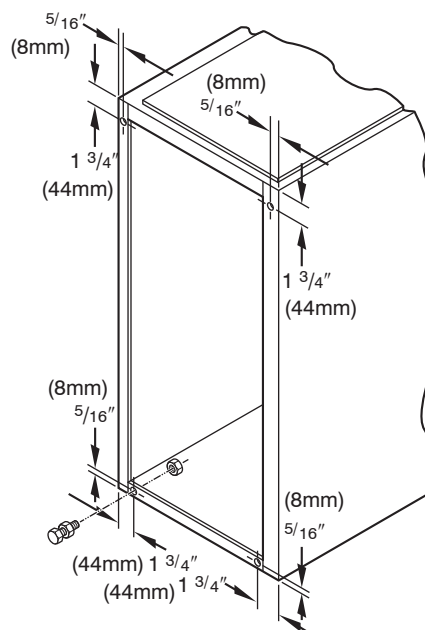

Fig. 10 – Leveling Legs
In upflow position with side return inlet(s), leveling legs may be used. (See Fig. 10.) Install field-supplied, 5/16 x 1-1/2 in. (8 x
- Position furnace on its back. Locate and drill a hole in each bottom corner of furnace. (See Fig. 10.)